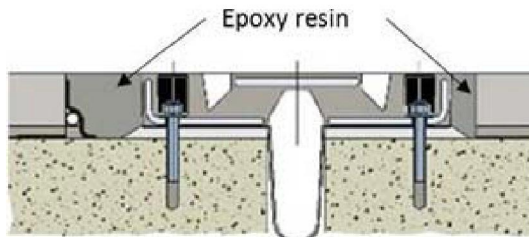

Figure 10 : Fill in the transition zone
- Fill in the transition zone (refer to Photo 8 and Figure 10) with approved epoxy resin (Fresyssiflex Sb or equivalent).